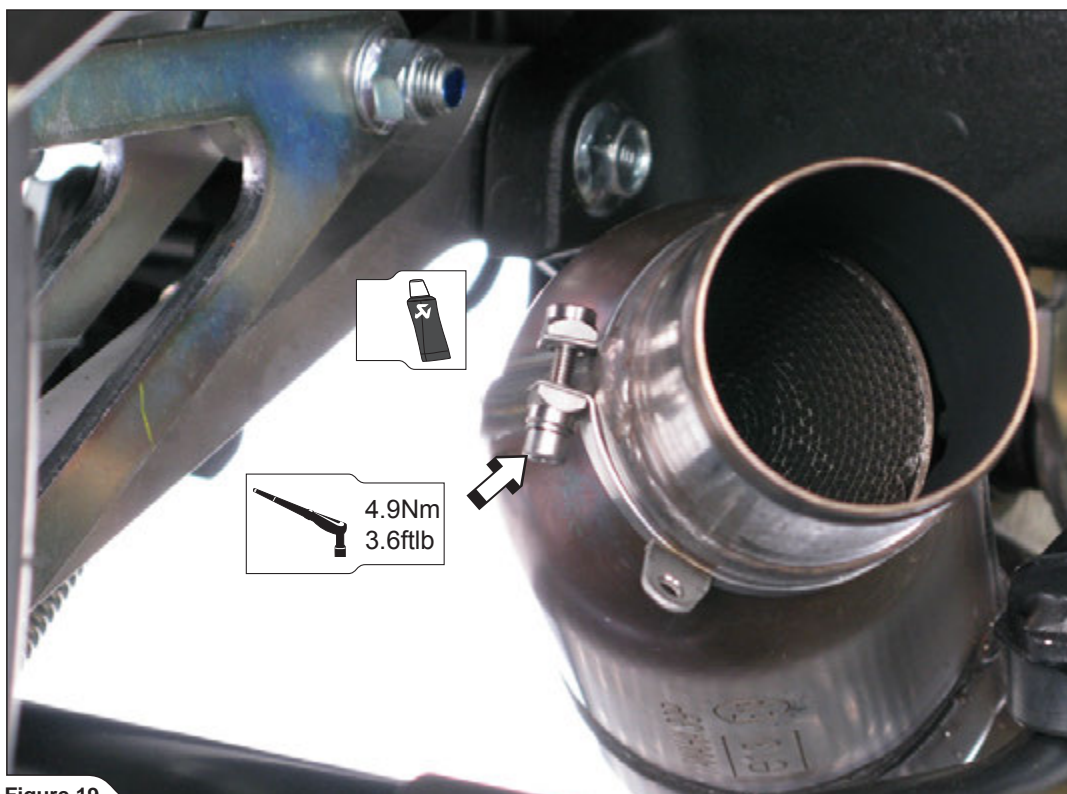

Figure 19
11. Correctly instal Akrapovič hook clamp onto the stock header pipe as shown and tighten it to a specified torque (**Figure 19**).